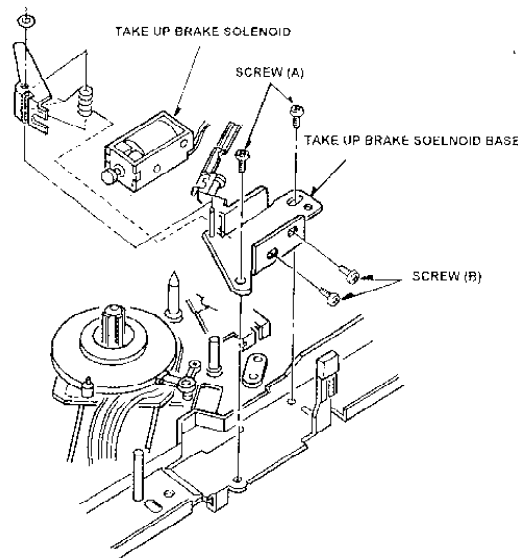

Fig.6-6-1 Removal of Take Up Brake Solrnoide
Hang on the Supply Brake Spring as shown in Figure 6-6-1.
5. Unscrew the 2 screws (A) and remove the Take Up Brake Solenoid Base Unit as shown in Figure 6-6-1.
6. Unscrew the 2 screws (B) and remove the Take Up Brake Solenoid from Take Up Brake Solenoid Base Unit as shown in Figure 6-6-1.
Hang on the Take up Brake Spring as shown in Figure 6-6-1.